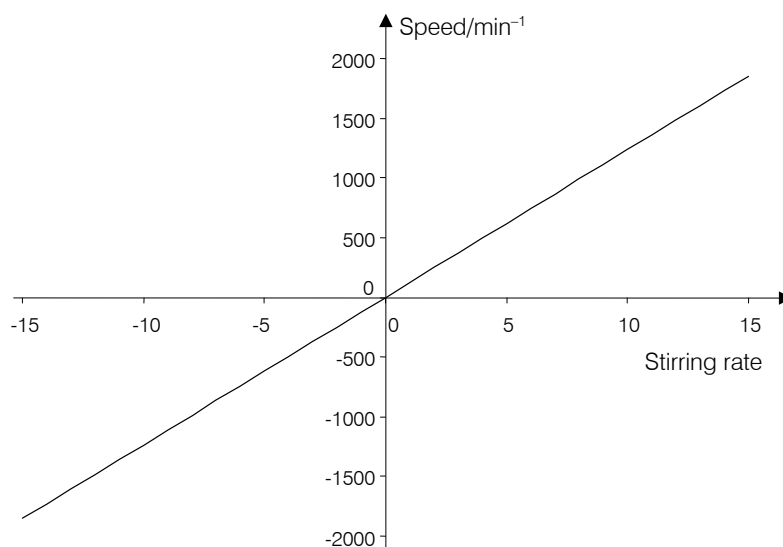

Fig. 21: Setting the stirring rate and speed
- **Stirring rate** (d) : You can check the optimal stirring rate manually (see Section 3.24.3). The stirring direction changes as the sign changes. The default setting **8** corresponds to 1000 min^{-1} (see Fig. 21).